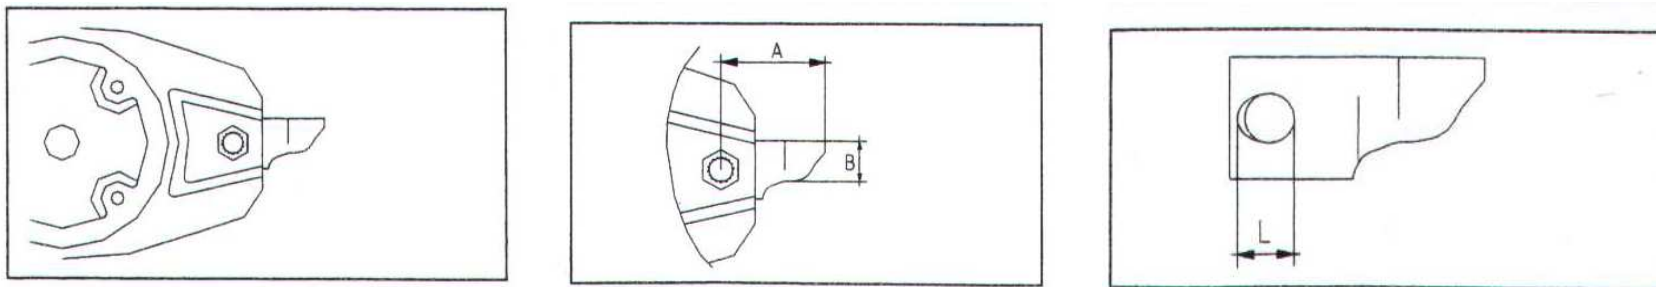

Fig. 44
Replace blades immediately when they are worn down. Blades should be at least 90 mm long (A) and 30 mm wide (B) (Fig. 44).
Replace the blade if the hole has become ovalized to more than 4 mm (L) (Fig. 44).